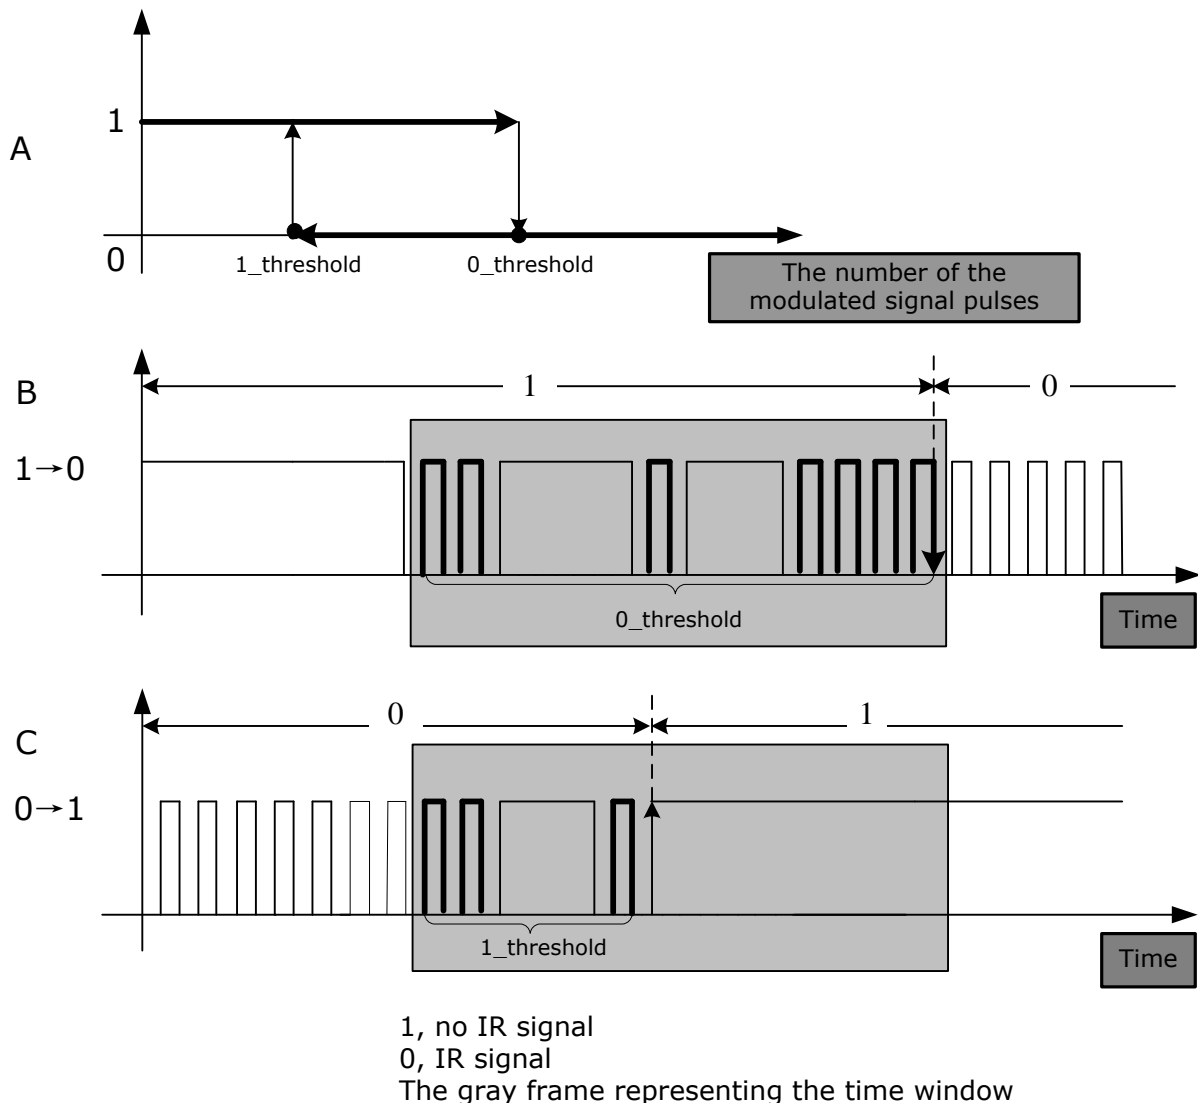

Figure 11-5 Demodulation of IR Signals
parameters, 1_threshold and 0_threshold, can be used to detect the demodulating data. For example, as shown in Figure 11-5, when 1_threshold=3, and 0_threshold=7,
- 2.1 as shown in B of Figure 11-5, when more than 7 the modulated signal pulses (namely, 0_threshold) moved into the time window when the demodulating data is 1, the demodulating data will be switched over to 0;
- 2.2 as shown in C of Figure 11-5, when less than 3 the modulated signal pulses (namely, 1_threshold) moved into the time window when the demodulating data is 0, the demodulating data will be switched over to 1.